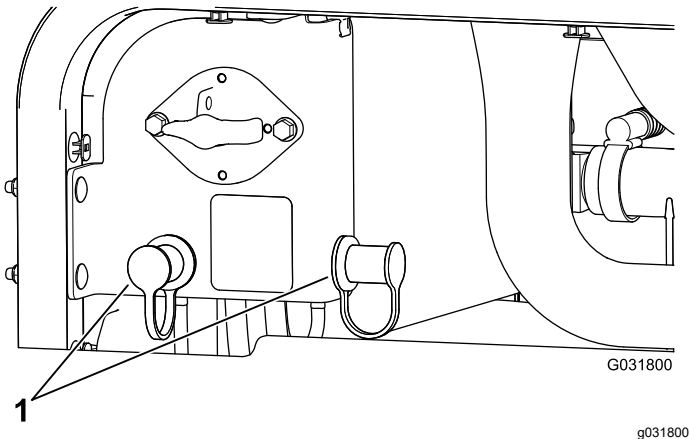

Figure 107
Remove the covers from the jump posts (Figure 107).
3. Remove the covers from the jump posts (Figure 107).